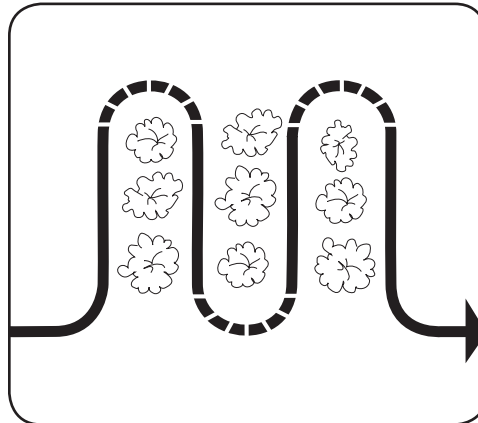

Figure 4-15
- With planning, you can allow enough room between rows to cultivate. Leave room for the hood width, plus enough extra room for future plant growth. See Figure 4-15.